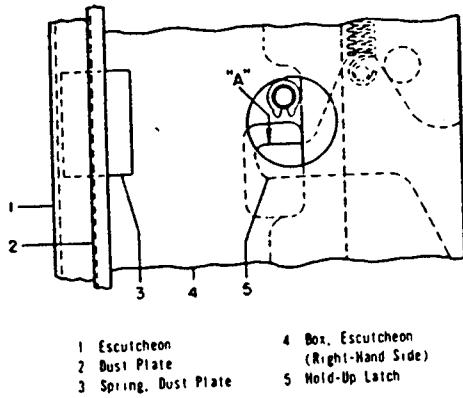

Fig. 4 — Partial View of Escutcheon Assembly (Right-Hand Side) Showing Slow Close Lever for Manually Operated Circuit Breakers
**NOTE:** The circuit breaker should be clamped down during the slow close procedure to keep it from tilting or moving. Manually Operated Circuit Breakers Refer to Fig. 4 unless otherwise noted.